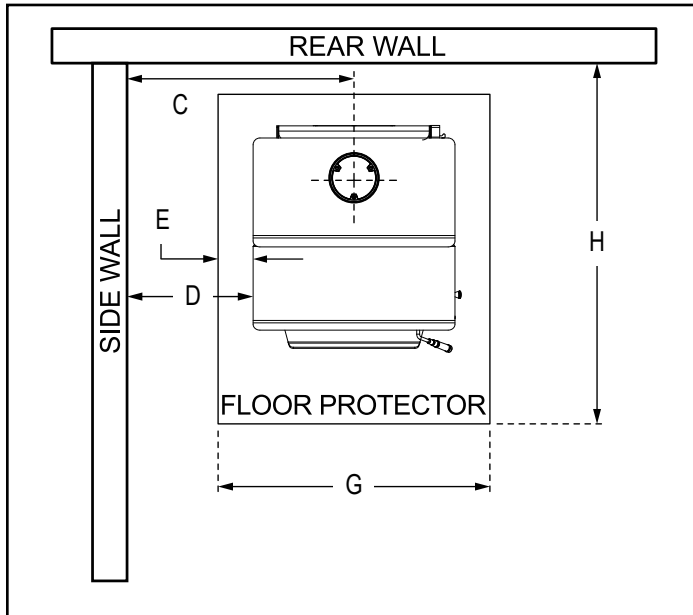

Figure 11.1
- The minimum Floor Protector sizes are specified in the clearance chart, see **Figures 11.1, 11.2 & 11.3**.
1. If a separate floor protector is being used position now. Place the firebox on the floor protector to suit the minimum installation clearances **Figures 11.1, 11.2 & 11.3**.